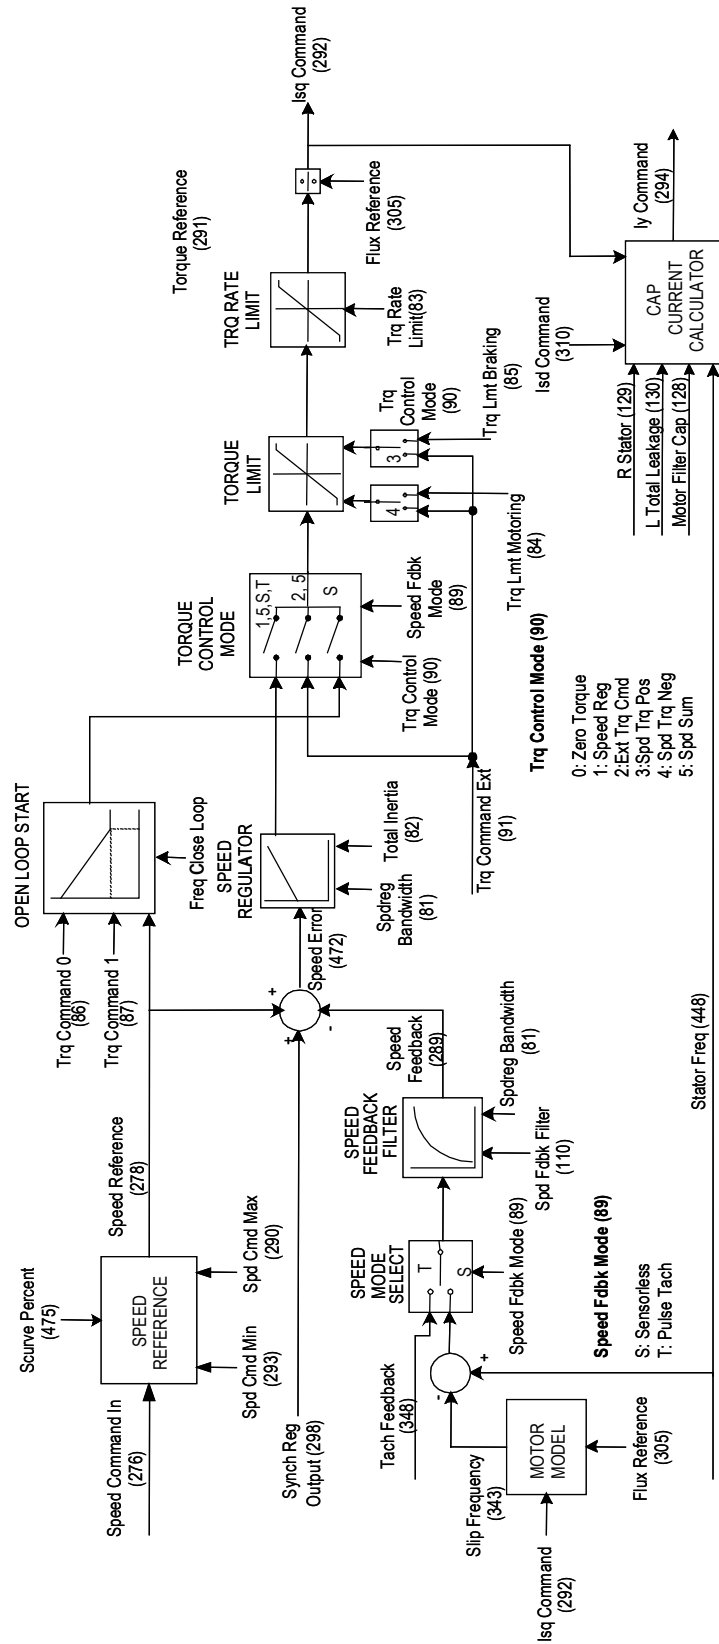

Figure 5.4 – Speed Control
Depending on the application, a drive can be configured in different torque control modes by setting the parameter *Trq Control Mode* (90). E.g. in stand-alone drives the parameter is set as *Speed Reg* allowing the drive to be in speed control mode. In Master-Slave or torque follower applications, the master drive is set in *Speed Reg* mode which enables the speed regulator. The torque reference produced by the Master drive is then passed on to the slave drive which is operating in *Ext Torq Cmd* mode. The slave drive then “follows” the torque command. Figure 5.4 shows other various modes of operation.